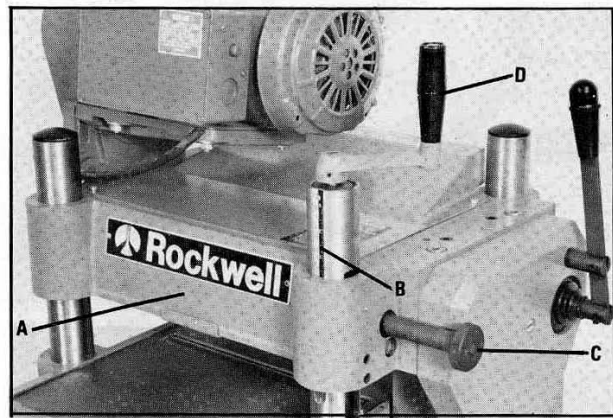

Fig. 40
The depth of cut on your planer is controlled by raising or lowering the head assembly (A) Fig. 40, which contains the cutterhead and feed rolls. The head assembly (A) raises and lowers on four precision ground steel columns. To adjust for depth of cut simply loosen the two head assembly lock knobs (C) and turn the elevating handle (D) Fig. 40. After the desired depth of cut is obtained, lock the two head assembly lock knobs (C) Fig. 40. A combination inch/metric scale (B) Fig. 40, is conveniently located on the right front column for easy reading.